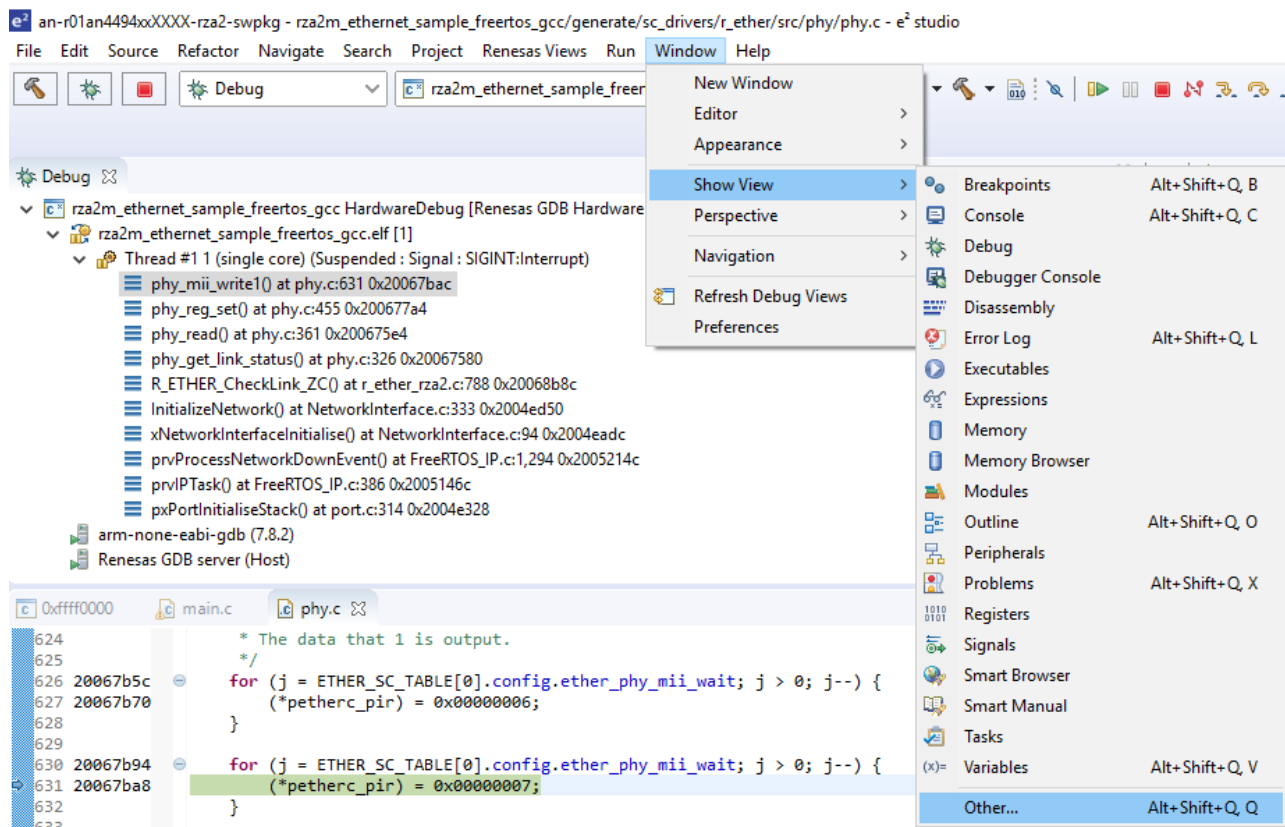

Figure 6-7 Launching FreeRTOS awareness function, step 4
4. Select “Window” menu – “Show view” – “Other”. This is shown in Figure 6-7.